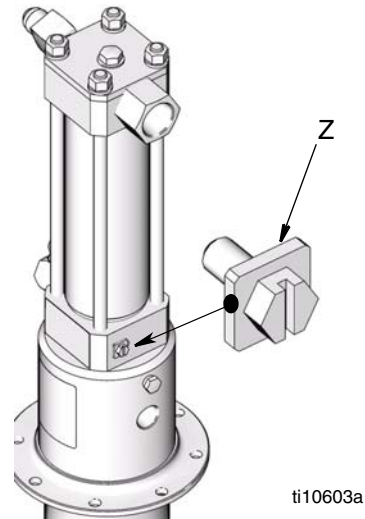

FIG. 3
- **Pump:** Use ground wire and clamp as shown in FIG. 3. Order Grounding Wire and Clamp Kit, Part No. 222011.
To ground pump (See FIG. 3):